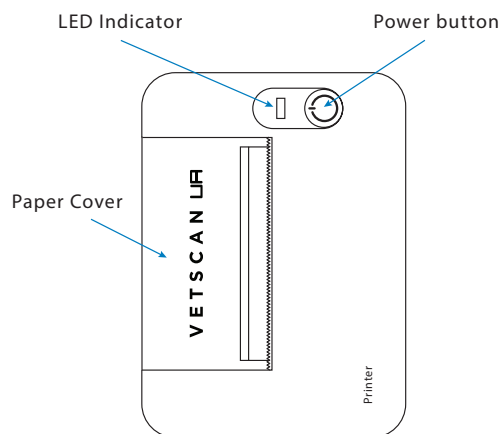

Fig. 3 UA Printer
- UA Printer (Fig. 3)
- Check Strips (2) -Strips for dry-use only verification of the instrument function (in plastic tube)